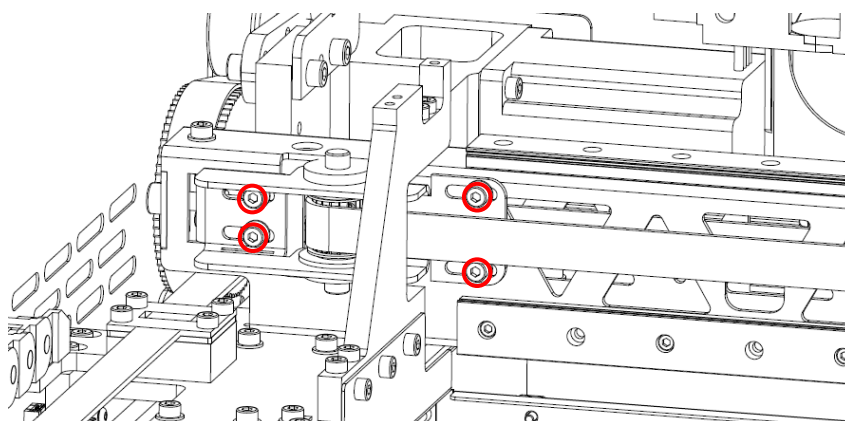

Fig. 116 Tensioner X securing screws
- c) Loosen the 4 screws securing the tensioner (Fig. 116, kolor czerwony).
- f) When you have finished tensioning the belt, tighten the previously loosened screws securing the X tensioner (Fig. 116).